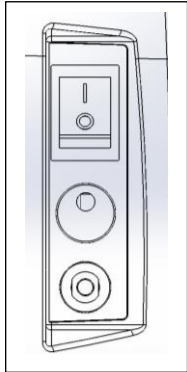

Figure 2
- A. **MAIN POWER SWITCH:** Located at the back of the machine, applies power to the laminator. The 'ON' position is indicated by the 'I' symbol. The 'OFF' position marked 'O' symbol (figure 2).
- K. **Circuit Breaker:** (figure 2) The circuit breaker is located below the power cord and can be reset by pushing the button. If the circuit continues to fail, please contact authorized service provider.